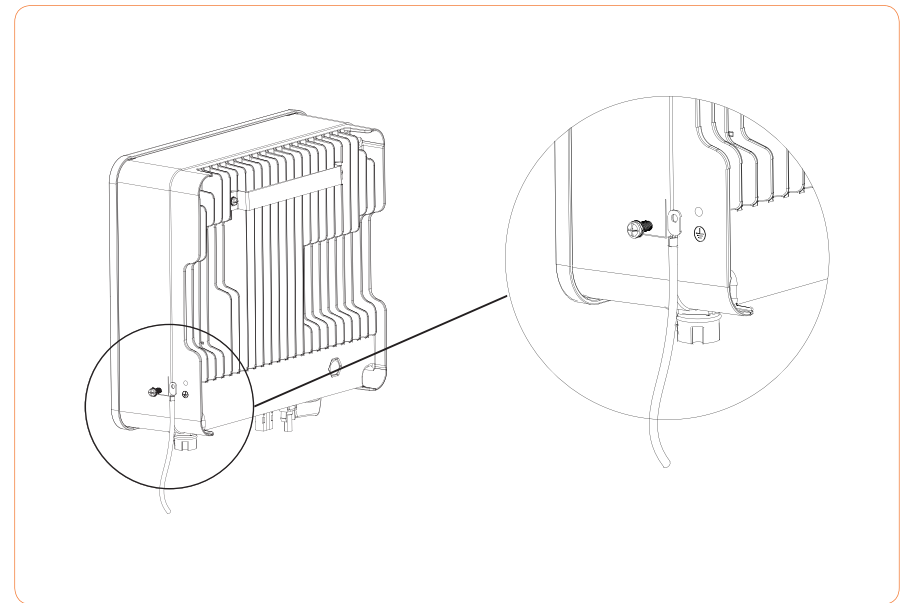

Figure 4-8 Grounding terminal connection
- ① The external grounding terminal is located in the lower right side of the inverter.
- ② Fix the grounding terminal to the PE wire with a proper tool and lock the grounding terminal to the grounding hole in the lower right side of the inverter, as shown in Figure 4-8.
- ③ The cross-sectional area of the external grounding cable is 4mm2.